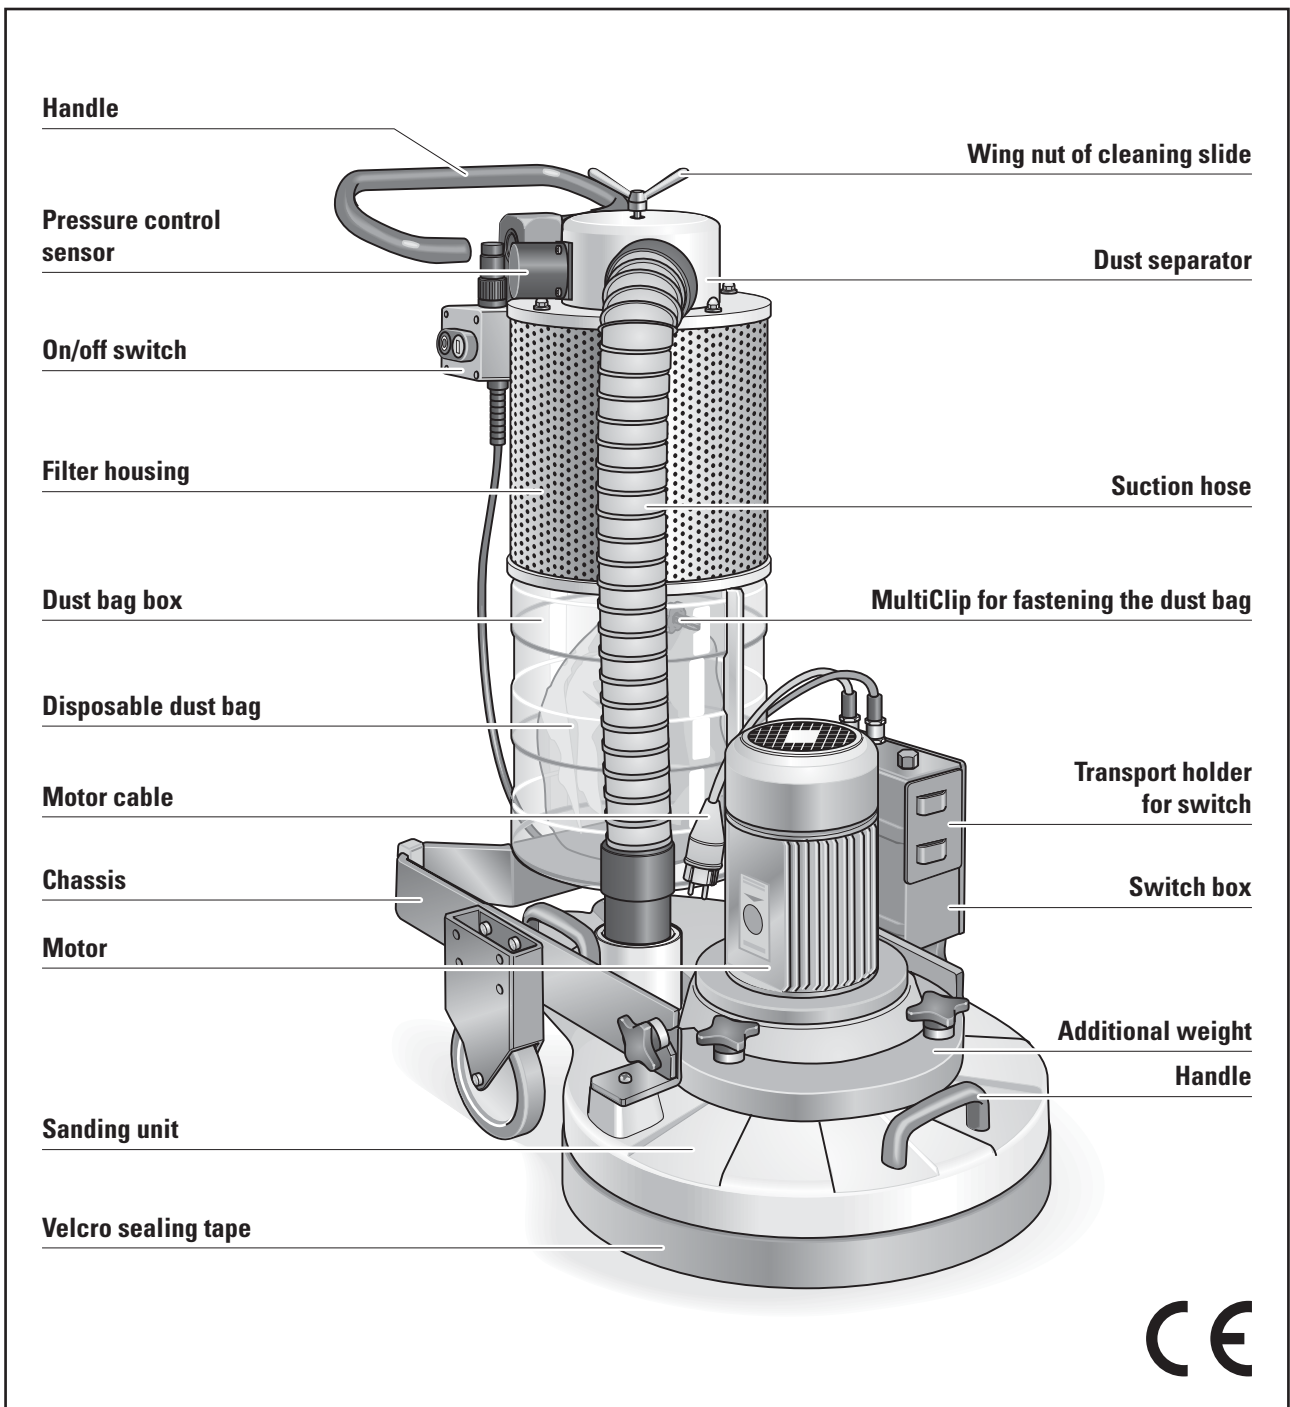

Fig. 1 Main components of the three disc sanding machine TRIO.
*Figure 1* depicts the TRIO with the main components designated. Take your time to become familiar with the machine.